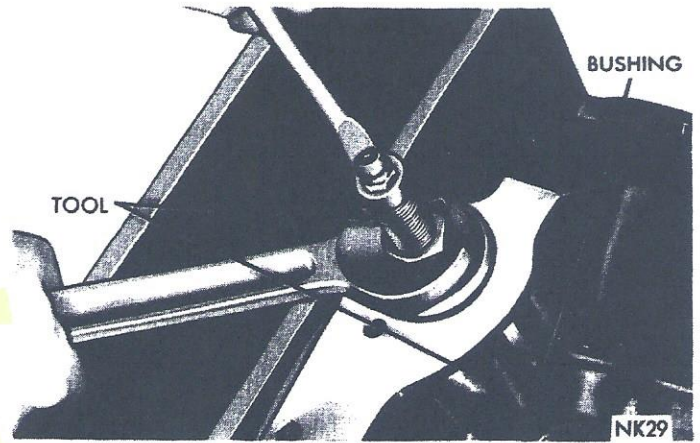

Fig. 41—Burnishing Distributor Drive Shaft Bushing
(3) As the burnisher is pulled through the bushing by tightening the puller nut, the bushing is expanded tight in block and burnished to correct size, (Fig. 41). **DO NOT REAM THIS BUSHING.**